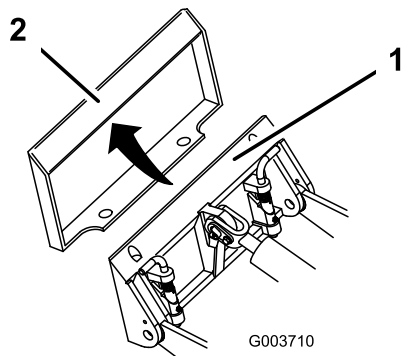

Figure 13
- Position mount plate into the upper lip of the attachment receiver plate (Figure 13).